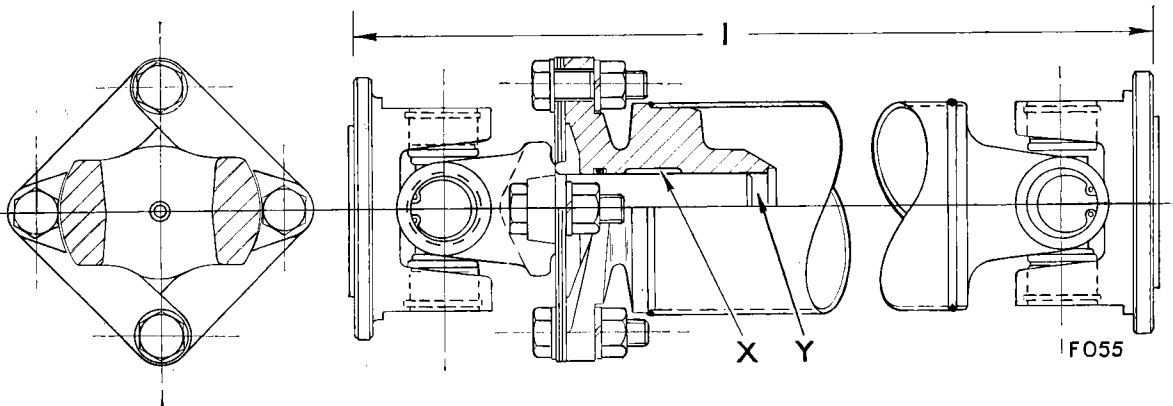

Fig. 4. Strap drive propeller shaft
Repack the bore at "Y", Fig. 4, with Duckham Q.5648 grease and lubricate at "X" with Shell Dentax 250 or Retinax "A" or equivalent.
Reverse the dismantling procedure and when refitting the connector straps (1) ensure that the straps are interleaved as shown on Fig. 4.